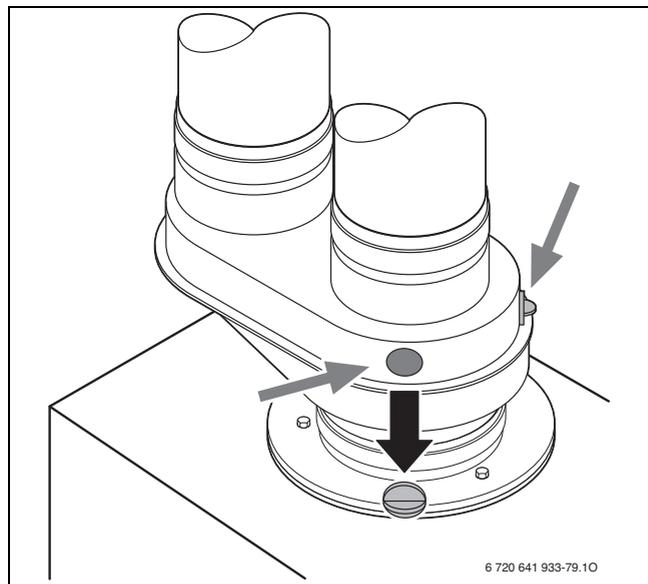

Fig. 76 Open one of the flue gas test ports
- ▶ Remove plug from flue gas test port (→ Fig. 76).